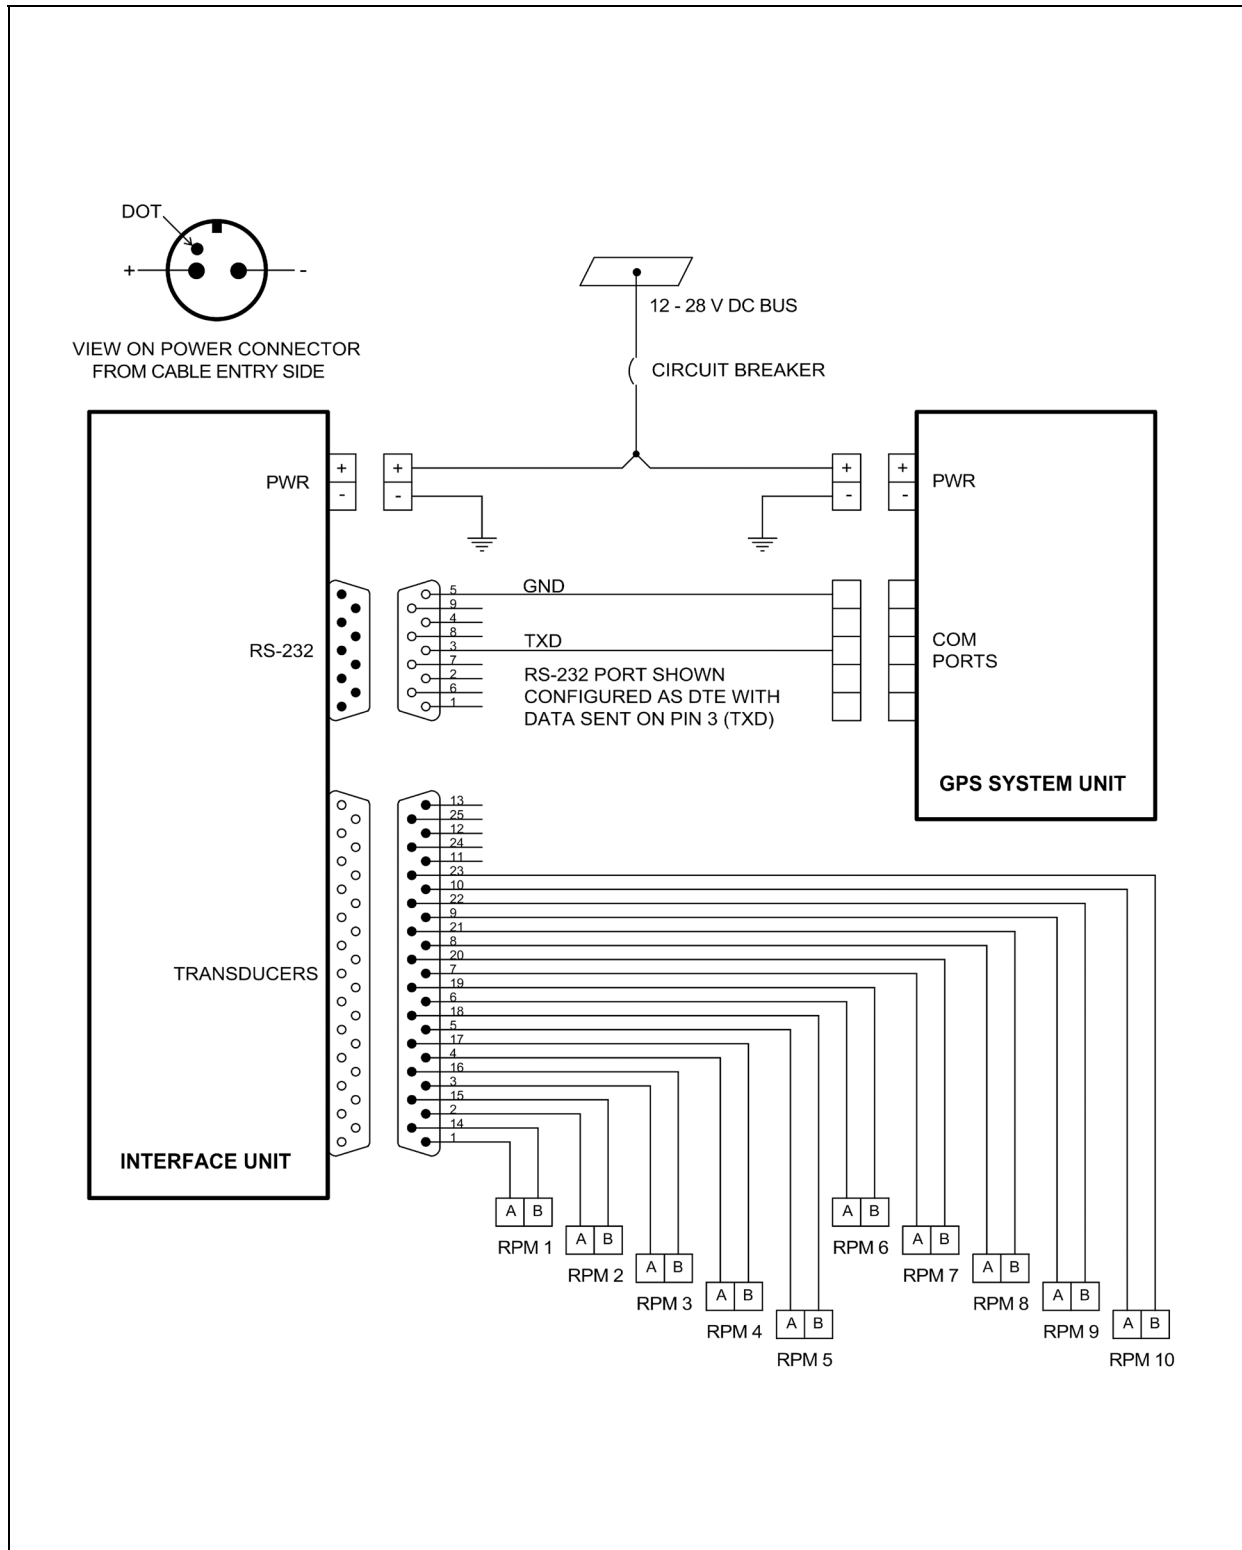

Fig. 6 – Electrical Schematic
8. Repeat (7) for all other cables. The correct pin numbers are shown in Fig. 6, which shows the view on the rear (cable entry) face of the plug.
2. Solder a length of 20 – 22 AWG wire (not provided) for the positive supply to the pin marked with a dot as shown in Fig 6.
3. Solder a length of 20 – 22 AWG wire (not provided) for the ground connection to the second pin of the connector as shown in Fig. 6.
The RS-232 (serial) output of the interface must be connected to an available COM port on the GPS system unit. The male DB-9 connector on the unit is wired as Data Terminal Equipment (DTE) with data flowing from the interface on pin 3 and the ground return on pin 5 as shown in Fig. 6.
If the GPS system uses a different type of connector it will be necessary to make up a cable with a female DB-9 connector at the interface end and the appropriate connector for the GPS input at the other. In this case the connector pins should be wired as shown in Fig. 6. This cable may be available from the GPS system supplier.